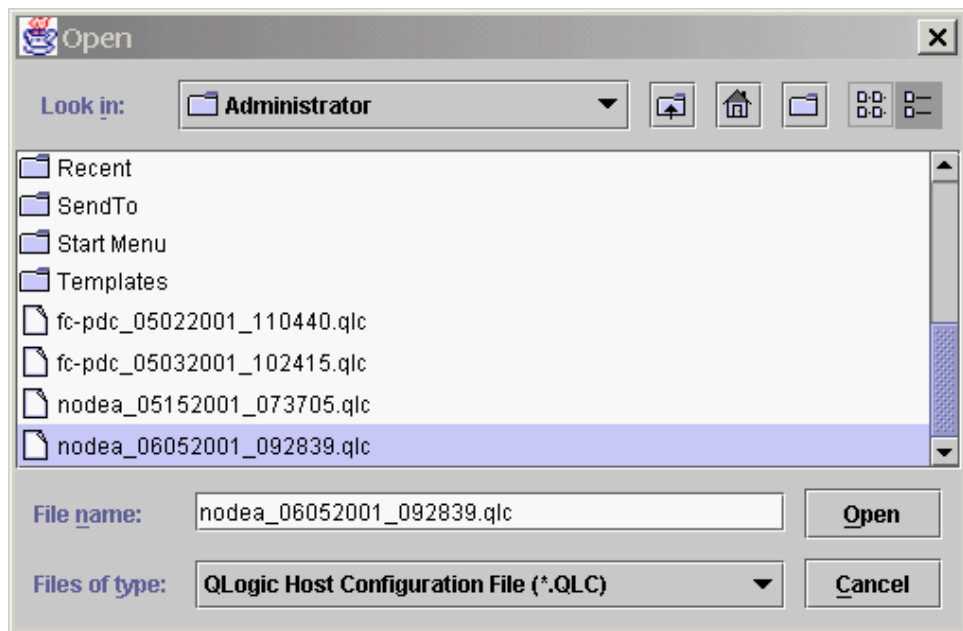

Figure 19. Open window
2. In the Open window, click the file you want to load, and then click **Open** (see Figure 19).